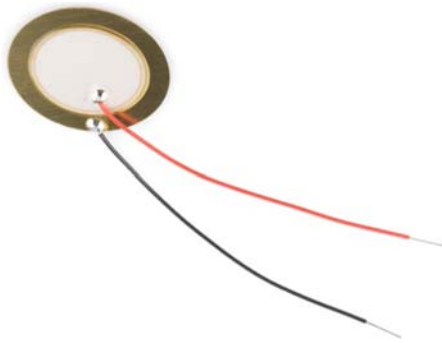

Figure 4.12
Compile the program and download. If you’re using the app board, then the on-board speaker is hard-wired to pin 26 of the mbed (item 5 of Fig. 2.7), and the sequence should play on reset. Otherwise, connect a piezo transducer, as seen in Fig. 4.12, between pins 1 and 26. Let the program run. The transducer seems very quiet when held in air. You can increase the volume significantly by fixing or holding it to a flat surface like a table top.